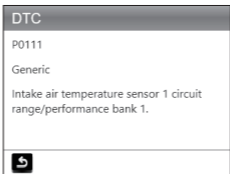

Figure 6.1.3
2. We're going to take a fault code P0111 as an example (See Figure 6.1.3). The AL500B gives you the definition of the code (Intake air temperature sensor 1 circuit range/performance bank 1).